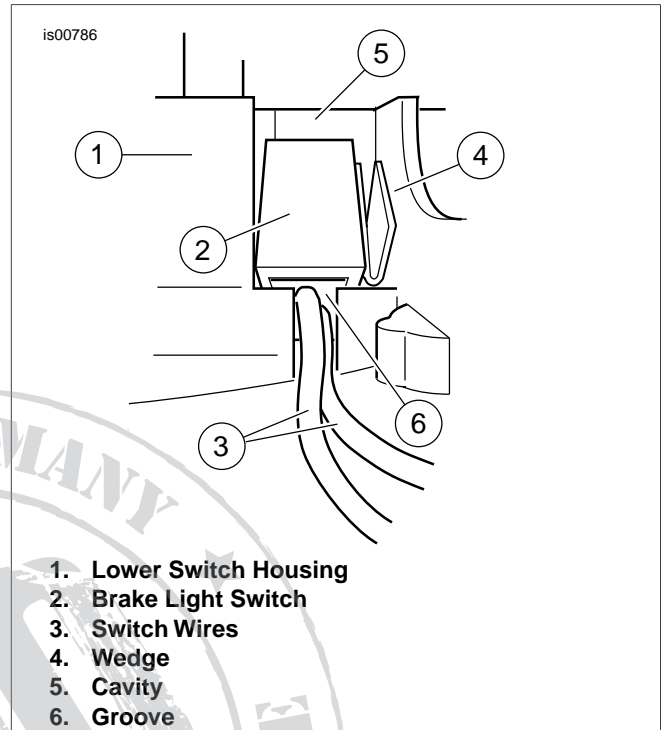

Figure 6. Brake Light Switch
4. See Figure 6. To remove the brake light switch (2) and wedge (4):
- a. Gently pry out wedge located between switch housing (1) and brake light switch (2). Save the wedge for reassembly.
1. See Figure 6. Place brake light switch (2) and wedge (4) into chrome lower switch housing (1). Place a small bead of Silicone Sealant into the wedge.
2. Place turn signal switch assembly and bracket into housing cavity (5). Align hole in bracket with threaded hole in boss.
4. See Figure 6. Remove brake light switch assembly (2):
- a. Gently pry out wedge (4) located between switch housing (1) and brake light switch (3). Save the wedge for reassembly.
5. See Figure 6. Re-install brake light switch (2) and wedge (4):